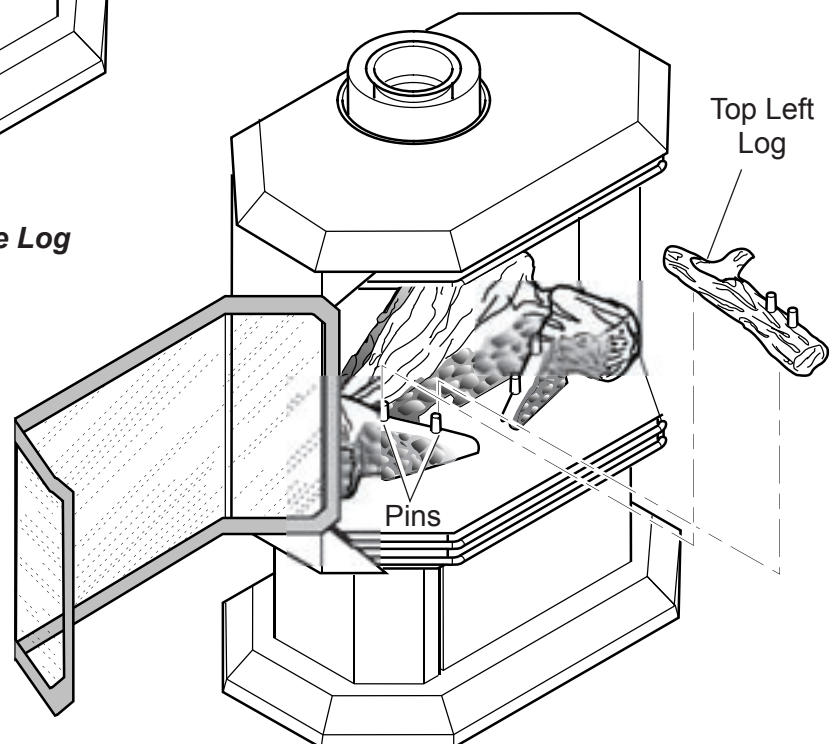

Figure 35 - Installing Top Left Log
6. Place top left log on left base log. Line up the hole in the bottom of the top log with the locating pins on the bottom log. *See Figure 35.*